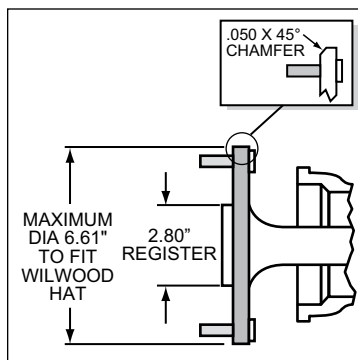

Figure 3. Axle Flange Maximum Dimension
- Axle center register diameter is 2.80", Figure 3. This kit uses Wilwood's removable center register adapters. Rotors can either be centered on the axle register, i.e. *register-centric* or centered on the wheel studs, i.e. *stud-centric*. Due to variations in wheel stud final diameters, *register-centric* centering can be a more accurate method of centering the rotor to the axle. Wilwood offers various diameter adapters for purchase in addition to the ones supplied in this kit, see Table 1.
- Maximum axle flange diameter must be no larger than 6.61" w/.050" x 45° chamfer (see Figure 3).
- Slide the bracket kit assembly (1) onto the housing flange and then insert the axle assembly through the center hole of the bracket kit assembly (1). Secure using the stock Original Equipment Manufacturer (OEM) bolts and nuts. Stock OEM hex nuts that retain the bracket kit assembly (1) should be on the wheel side of the bracket. Apply red **Loctite® 271** to the stock OEM bolt threads and torque to OEM specifications. Make sure the bracket kit assembly (1) brake pads are FACING OUTWARD TOWARDS THE WHEEL.
- With the larger I.D. side of the rotor (3) facing away from the hat (2), bolt rotor (3) to hat (2) through the backside of the rotor using washers (4) and bolts (5). Apply red **Loctite® 271** to the bolt threads and torque to 155 **in-lb** using a criss-cross pattern. For an added measure of security, the bolts may be safety wired using standard 0.032 inch diameter stainless steel safety wire as shown in Figure 3. Please refer to Wilwood's data sheet DS-386 (available at www.wilwood.com/Pdf/DataSheets/ds386.pdf) for complete safety wire installation instructions.